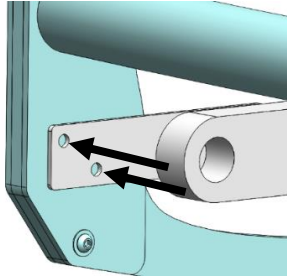

Figure 6: Mounting Straps to Front Receiver with Winch
6. If you are installing with a Front Receiver and/or Winch, mount the Light Bar blades to the Front Receiver using the provided right angle straps through the cutouts in your front bumper (see front receiver installation instructions for more detail on this – see Figure 6).